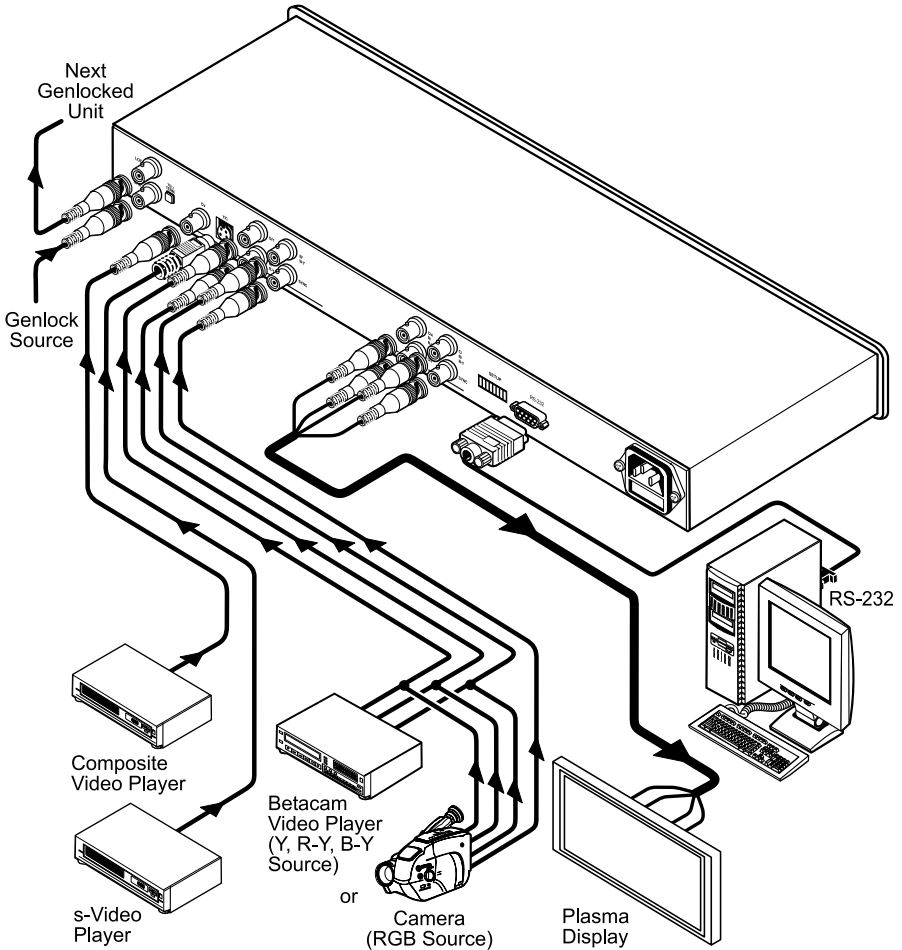

Figure 3: Connecting the FC-4002 Format Converter / TBC
You can use your **FC-4002** to convert a composite video, s-Video, or component video (YUV or RGB/S) signal to either: Component video, **or** Composite video **and**¹ s-Video simultaneously. For example, as the illustration in Figure 3 shows, an RGBS output² that connects to a plasma display.
8. Connect the power cord⁵ (not illustrated in Figure 3).
The example in Figure 3 illustrates how to connect your **FC-4002**: